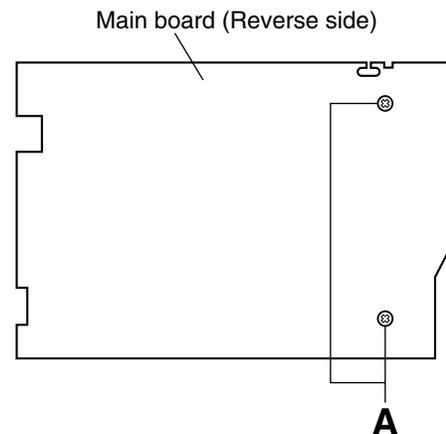

Fig.2
■ Replacing the power amplifier IC on the main board (See Figs. 2 and 3.)
- From the reverse side of the main board, remove the two screws **A** retaining the bracket. (See Fig. 2.)
(See Fig. 2.)